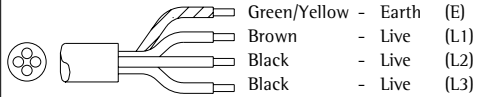

fig. 4
- (Fig. 4) For 220V-240V 3 live (4 core electric cable).
The four or five core mains cable (fig. 4/ fig. 5) has the following wiring codes: